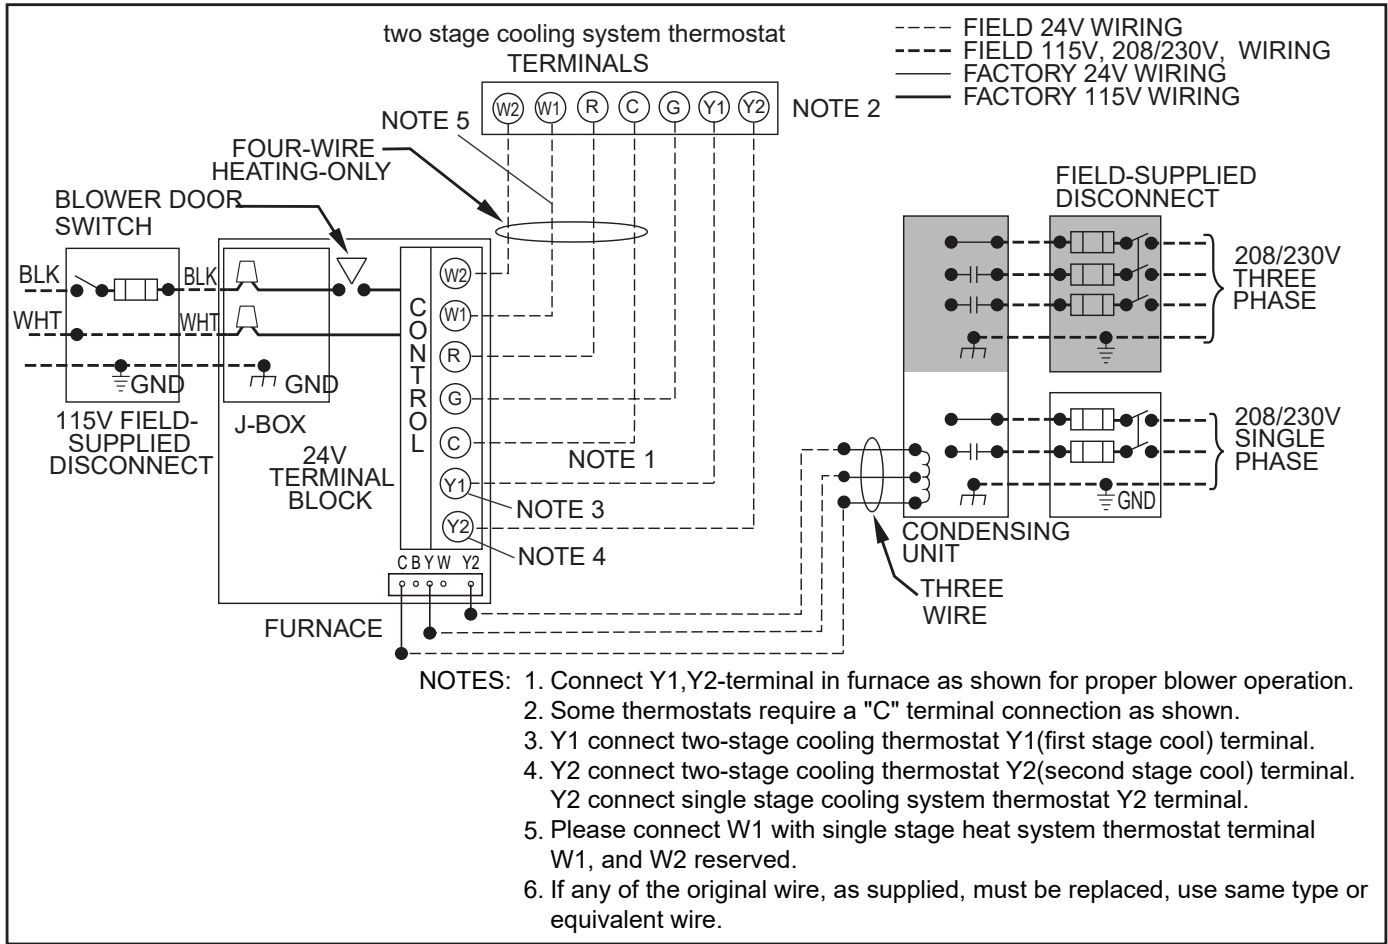

Fig.9-3 Heating and Cooling Application Wiring Diagram with I-Stage Thermostat
12. Complete electrical box wiring and installation. Connect line voltage leads as shown in Fig. 9-3. Use best practices (NEC in U.S. and CSA C22.1 in Canada) for wire bushings, strain relief, etc.
5. Connect line voltage leads as shown in Fig. 9-3.
1. Maintain 115V wiring and ground. Improper polarity will result in rapid flashing LED and no furnace operation. (See Fig. 9-3)
2. Make thermostat wire connections at the 24-V terminal block on the furnace control. Failure to make proper connections will result in improper operation. (See Fig. 9-3.)
(See Fig. 9-3 for thermostat connections.) The wall thermostat "calls for heat," closing the R--to--W1 circuit. The furnace control performs a self--check, verifies the pressure switch contacts PRS are open, and starts the inducer motor IDM.